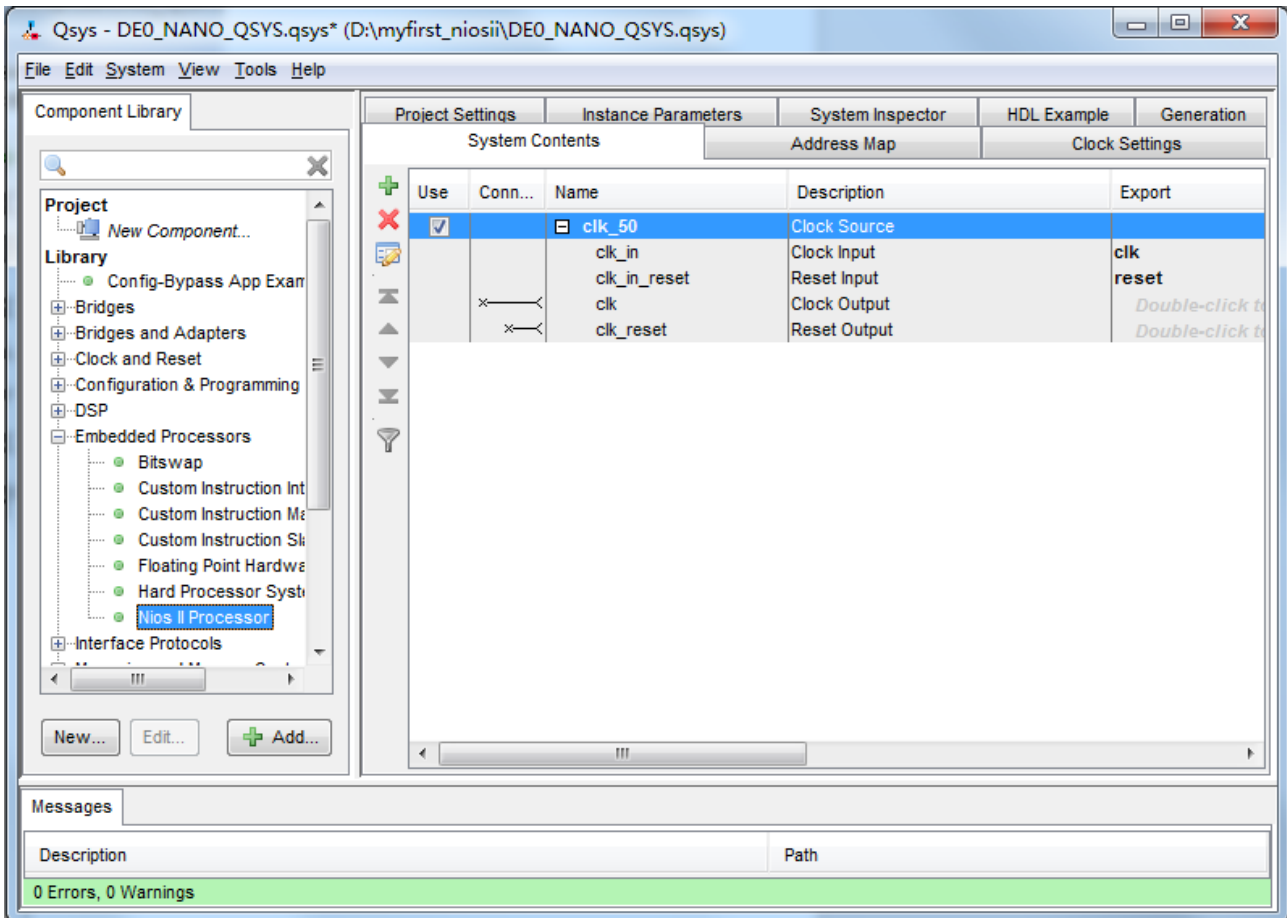
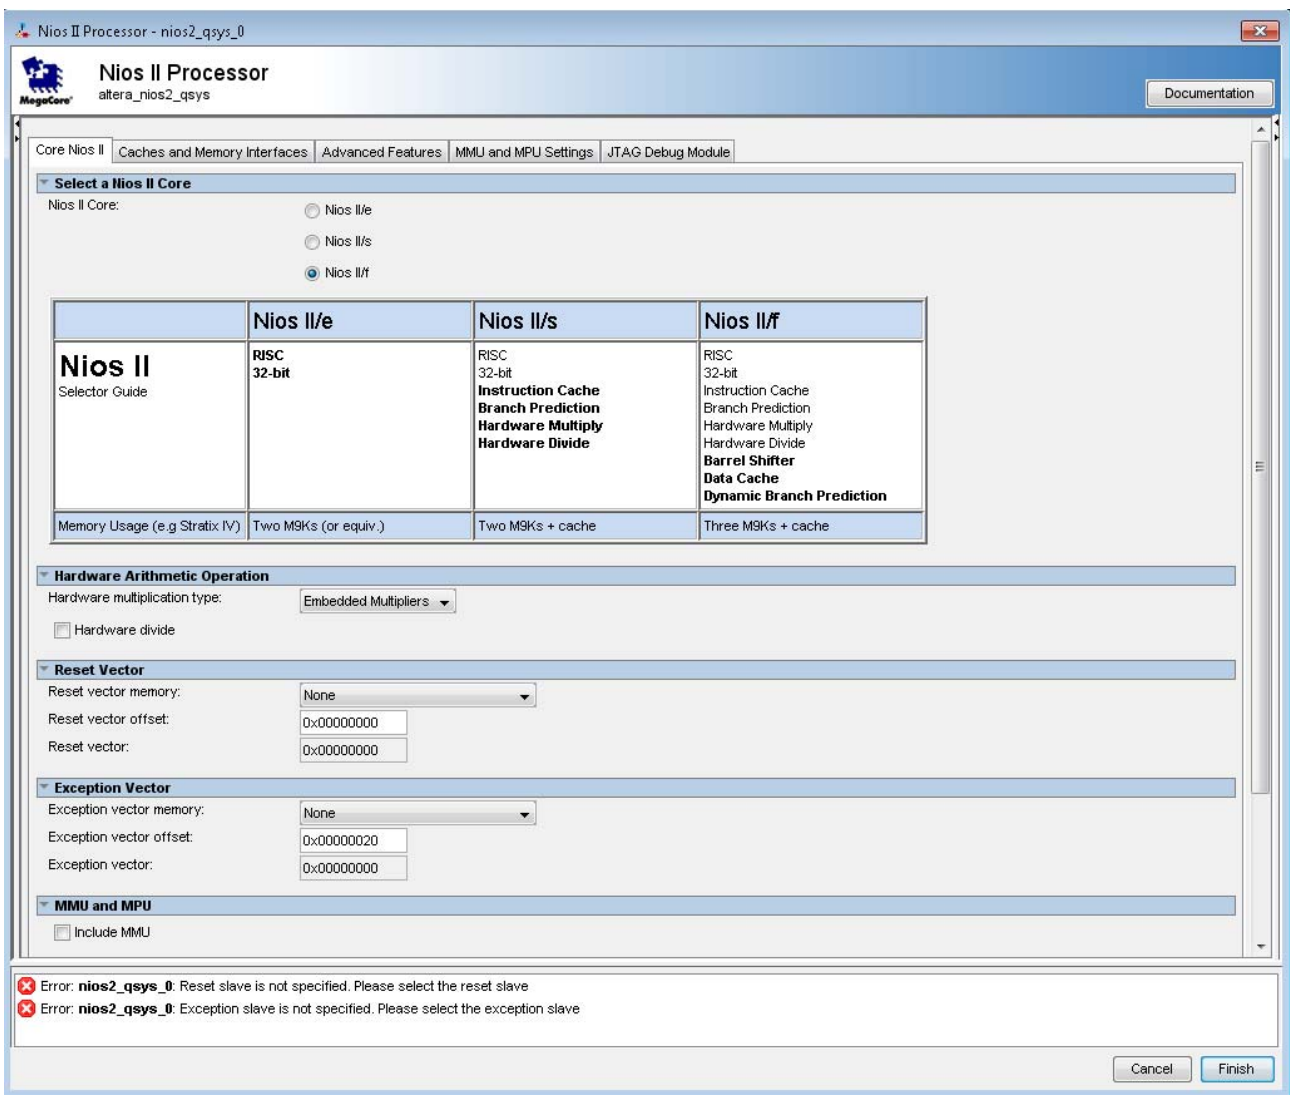

Figure 1-15 Add Nios II Processor
Figure 1-16 Nios II Processor
9. Choose Library > Embedded Processors > Nios II Processor to open wizard of adding cpu component. See Figure 1-15 and Figure 1-16.